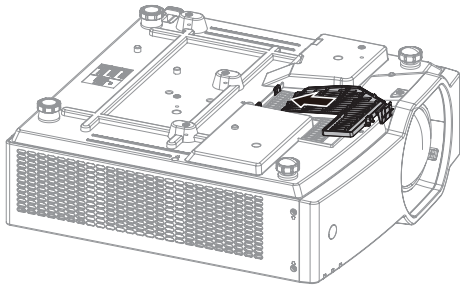

Fig. 1
- Insert the air intake screen to the holes on the projector body in the direction shown in Fig. 1.